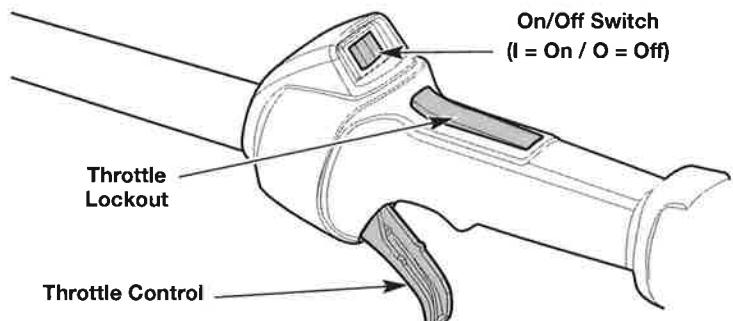

Fig. 11
**NOTE:** There is no need to turn the unit on. The On/Off switch is in the **On (I)** position at all times (Fig. 11).
5. Press and hold the throttle lockout. Squeeze and hold the throttle control (Fig. 11). Pull the starter rope with a controlled and steady motion until the unit starts (Fig. 13).
2. Press and hold the On/Off switch in the **Off (O)** position until the engine comes to a complete stop (Fig. 11).
- NOTE:** There is no need to turn the unit on. The On/Off switch is in the **On (I)** position at all times (Fig. 11).
6. Press and hold the throttle lockout. Squeeze and hold the throttle control (Fig. 11). Run the Speed Start™ accessory in intervals no longer than 2 seconds each until the unit starts.